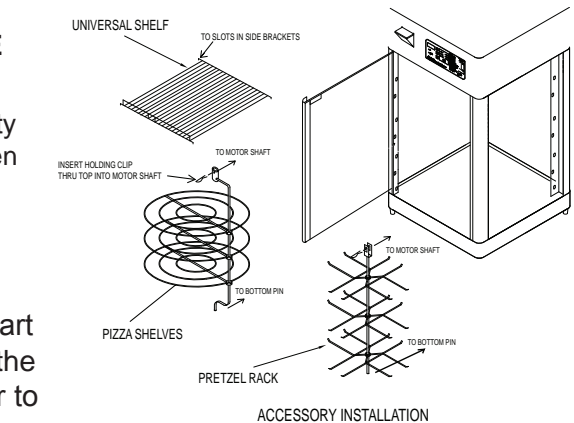

FIGURE 1
1. Install inside food rack or pizza/pretzel shelves depending on the model unit purchased. The shelves are in the enclosed accessory carton (See Figure 1).